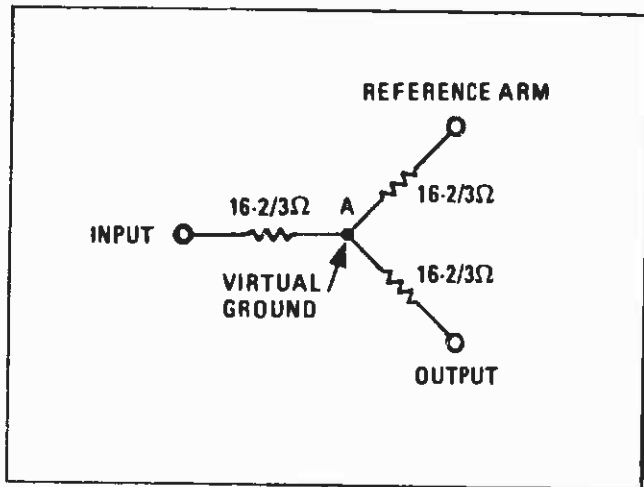
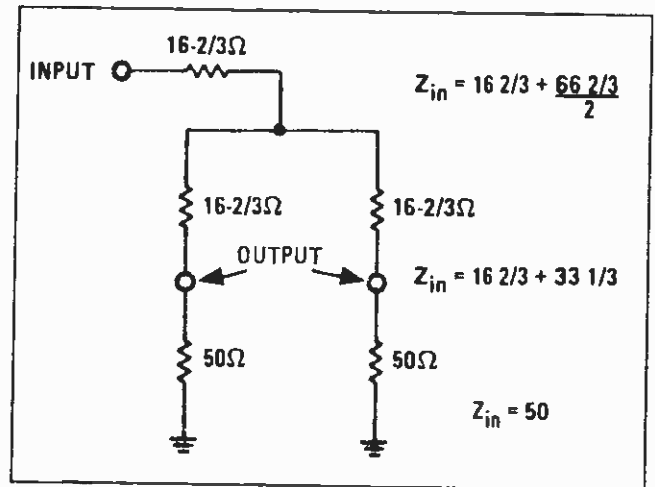
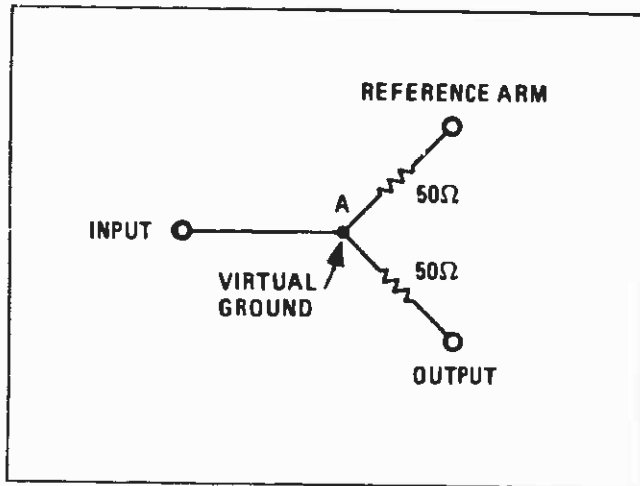
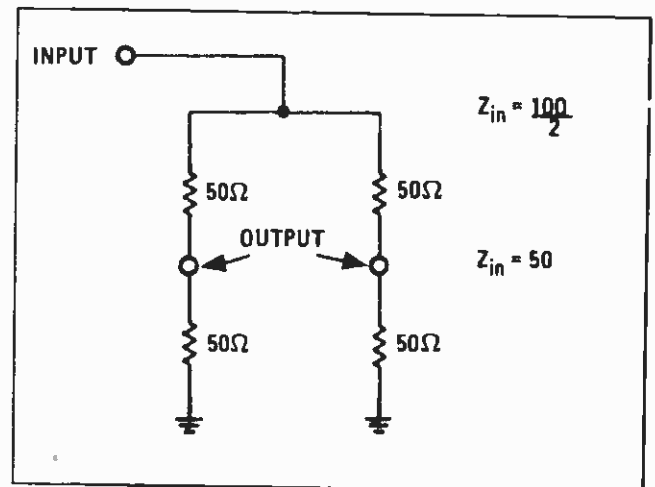

Figure 2. Three-Resistor Power Splitter
Figure 3. Equivalent Circuit of Three-Resistor Power Splitter
Figure 4. Two-Resistor Power Splitter
Figure 5. Equivalent Circuit of Two-Resistor Power Splitter
12. Power splitters used for wide-frequency coverage are usually of the resistive type. A typical three-port, three-resistor, two-way power splitter is shown in Figure 2. For simple power-dividing, a resistance value of  $16 \frac{2}{3}$  ohms in each arm will give an input impedance of 50 ohms as shown in Figure 3, provided the output ports are terminated in the characteristic impedance of 50 ohms.
(point A in Figure 2) will be kept at a fixed voltage by the AGC action of the reference channel of the network analyzer. Since this point is held at a constant voltage, a virtual ground is present. If a three-resistor power splitter, such as that shown in Figure 2, is used in leveling or ratio measurement applications, each output port will have an impedance of  $16 \frac{2}{3}$  ohms. This will be a 3:1 mismatch, causing significant measurement error. If a two-resistor power splitter, as shown in Figure 4, is used, the input impedance is still 50 ohms, as shown in Figure 5, but the output ports will also have an impedance of 50 ohms due to the virtual ground at the fork of the power splitter. This provides a better output SWR for leveling or ratio measurements.